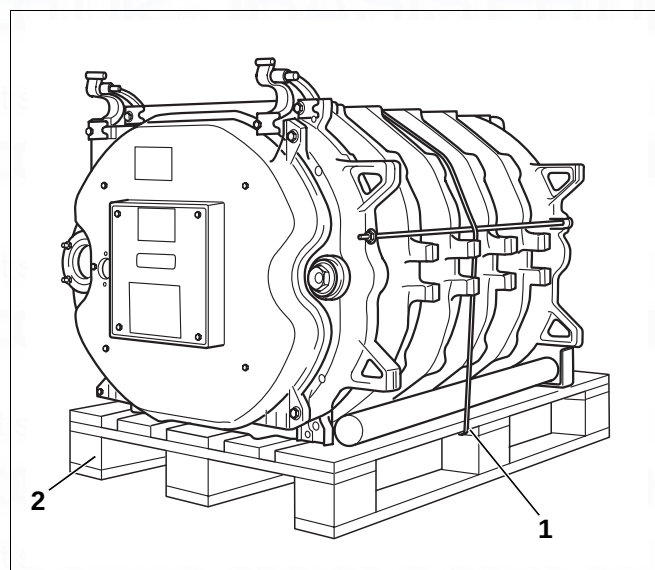

Fig. 18 Boiler block on pallet
- ▶ Cut the retaining band (Fig. 18, [1]).
- ▶ Remove the pallet prior to positioning the boiler block (Fig. 18, [2]).